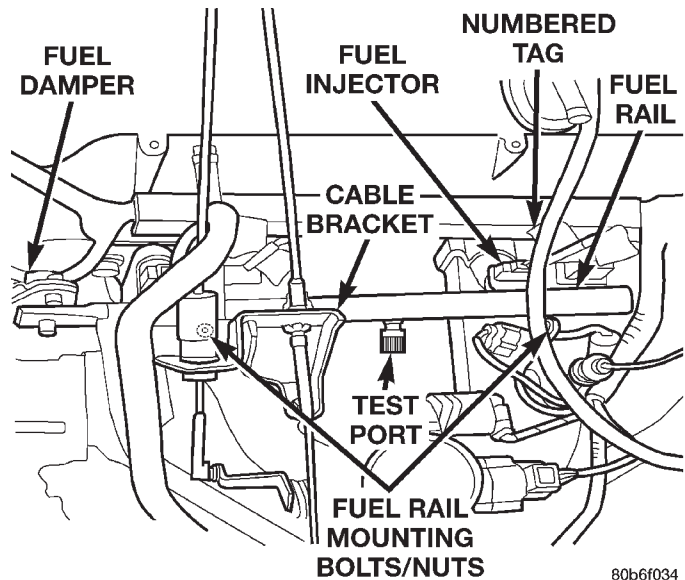

Fig. 30 Fuel Rail Mounting—2.5L Engine
- (1) Remove fuel tank filler tube cap.
- (2) Perform Fuel System Pressure Release Procedure as described in this Group.
- (3) Disconnect negative battery cable from battery.
- (4) Remove air tube at top of throttle body. Note: Some engine/vehicles may require removal of air cleaner ducts at throttle body.
- (5) Remove injector harness electrical connectors at each injector. Each injector connector should have a numerical tag attached identifying its corresponding cylinder (Fig. 30). If not, identify each connector before removal.
- (6) Disconnect fuel supply line latch clip and fuel line at fuel rail. Refer to Quick-Connect Fittings in this group for procedures.
- (7) Disconnect throttle cable at throttle body. Refer to Throttle Cable Removal/Installation in this group for procedures.
- (8) Disconnect speed control cable at throttle body (if equipped). Refer to Speed Control Cable in Group 8H, Speed Control System for procedures.
- (9) Disconnect automatic transmission cable at throttle body (if equipped).
- (10) Remove cable routing bracket (Fig. 30) at intake manifold.
- (11) Remove nut securing crankshaft position sensor pigtail harness to fuel rail mounting stud. Remove clamp and harness from fuel rail mounting stud.
- (12) Clean dirt/debris from each fuel injector at intake manifold.
- (13) Remove fuel rail mounting nuts/bolts (Fig. 30).
- (14) Remove fuel rail by gently rocking until all the fuel injectors are out of intake manifold.